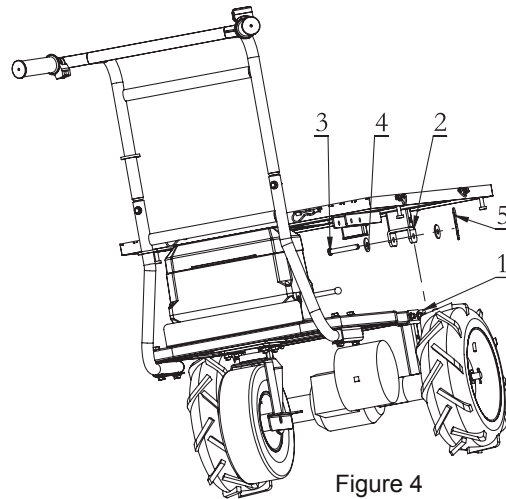

Figure 4
1. Take the bottom wire deck(2), face the flat wire upside and position the dumping handle groove side to main handle. Put the bottom wire deck(2) on to the base frame (1) , fasten by bolt (3) and washer (4), locked by the pin (5) (See Figure 4)